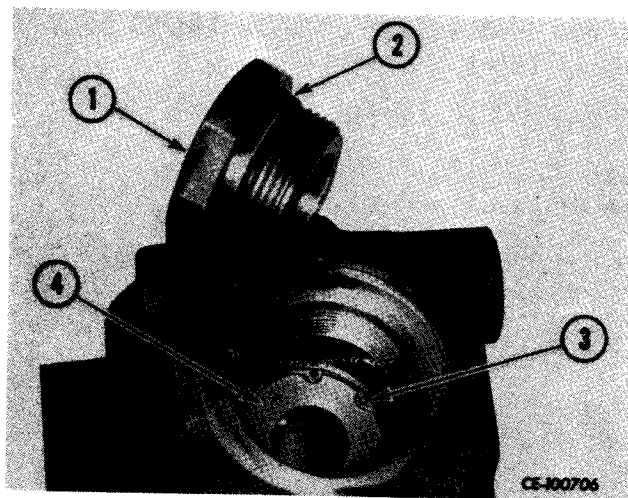

Figure 11-49
Remove plug (1, Fig. 11-49) from valve body. Remove snap ring (3) and orifice (4) from valve bore. Remove and discard seal ring (2) from plug.
Seat orifice (4, Fig. 11-49) in valve bore and retain with snap ring (3). Lubricate new seal ring (2) and install on plug (1). Thread plug into valve bore and tighten securely.